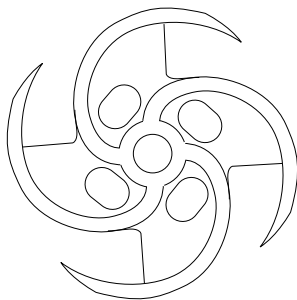

FIGURE 31. Open Impeller
- An open impeller consists of vanes attached to a central hub without any form of sidewall or shroud (Figure 31).